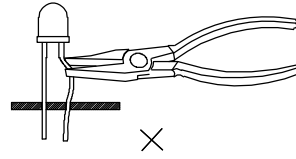

Fig. 7
- 6. During lead forming, use tools or jigs to hold the leads securely so that the bending force will not be transmitted to the LED lens and its internal structures. Do not perform lead forming once the component has been mounted onto the PCB. (Fig. 7)